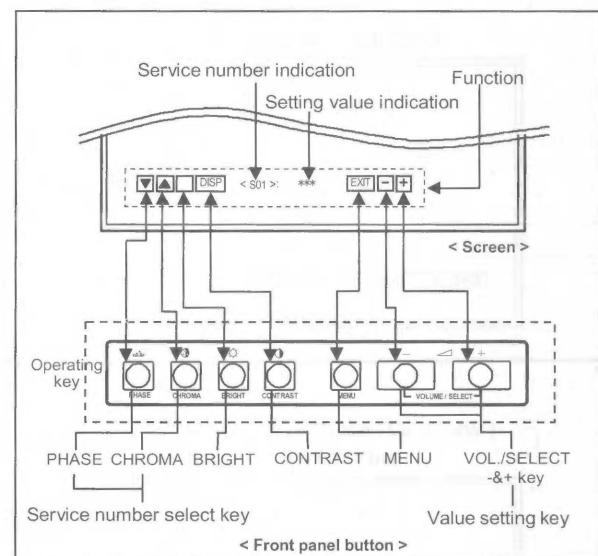

Fig. 6
(3) SETTING VALUE CHANGES
- While the adjustment mode menu is displayed. (Fig. 6)
(4) SERVICE MENU EXIT